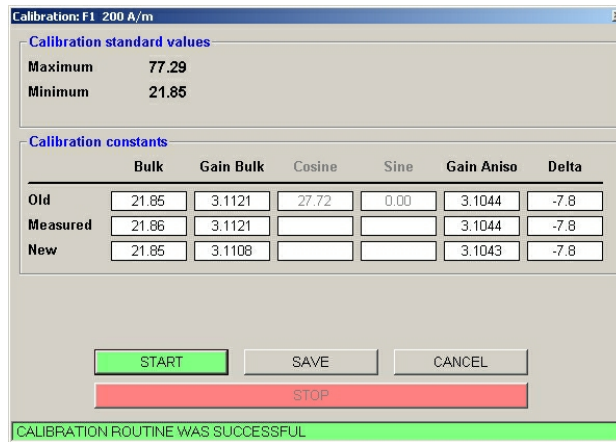

Figure 5: Calibration window
1. Open the *Calibration* window (Fig. 5, main menu *Execution/Calibration*, shortcut F3).